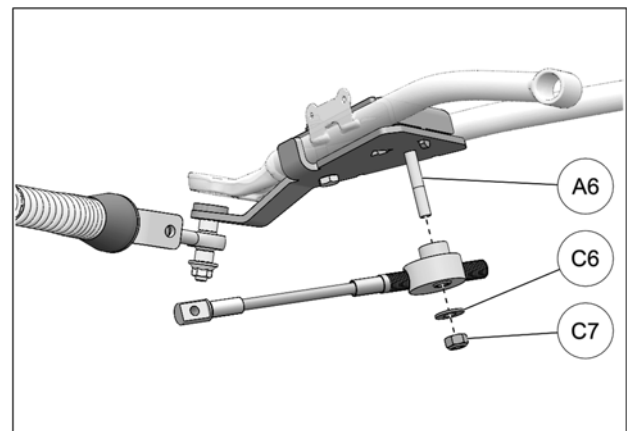

Fig. 24
14. Position Steering limiter cable assembly under front anchor bracket and slide it up on the previously inserted bolt (A6). Assemble using washer (C6) and nut (C7). Tighten nut to 50 N•m [37 lb•ft]. See Fig. 24